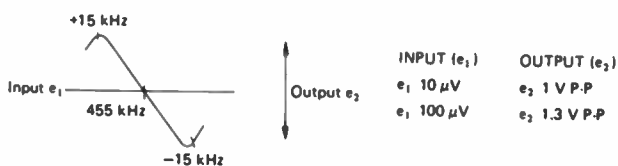

Figure 3. IF DISCRIMINATOR CURVE
- Step 3 : For best linearity, adjust IF Section T6, T7 so that the 455 kHz marker is in the center of the discriminator curve as shown in Figure 3.